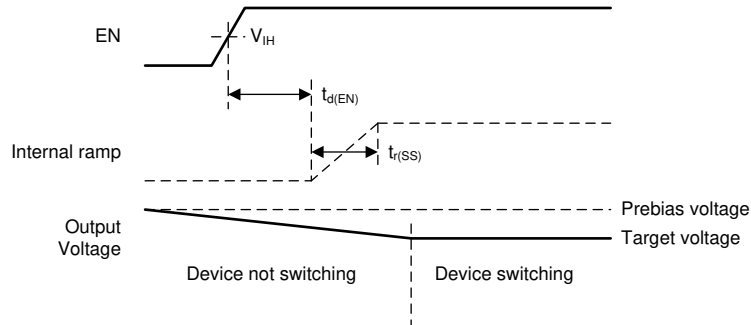

図 6-9. Start-Up Behavior into Prebiased (High) Output
- If the prebias voltage is *higher* than the target voltage, the device does not start to switch until the output voltage has decreased to the target voltage (see Figure 6-9). The device cannot actively discharge the output to the target voltage and relies on the load current to discharge the output capacitor and decrease the output voltage to the target value.